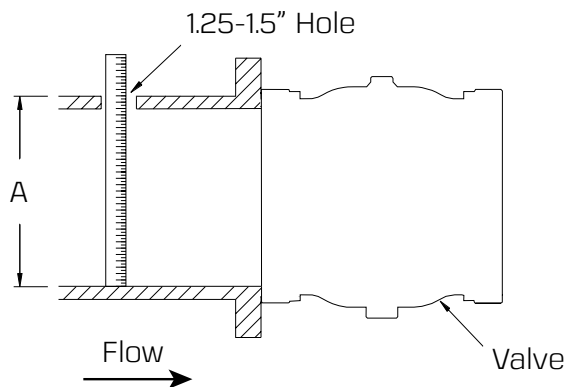

Figure 2. Pipe depth measurement.
- a. Measure from *bottom of inside* of pipe to *top of outside* of pipe (dimension A, see Figure 2).